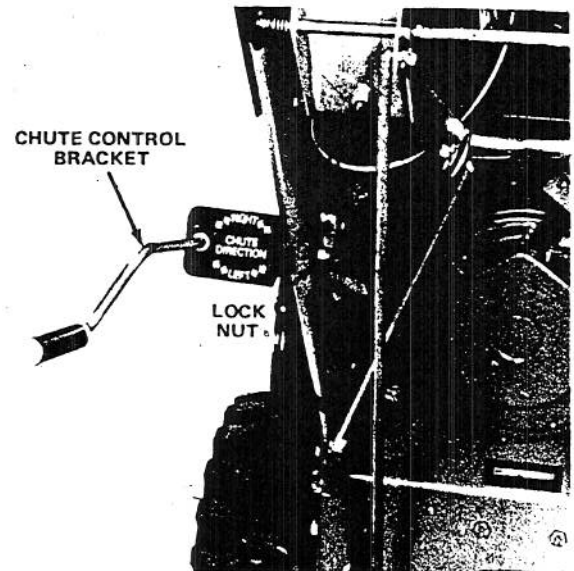
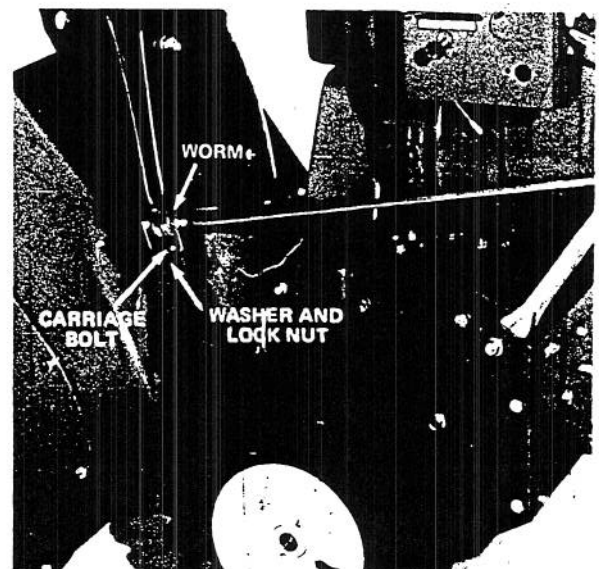

Figure 11
Figure 12
6. Install chute control bracket and rod against left side of handle with cap screw and lock nut; but do not tighten the lock nut (Fig. 11).
7. Apply No. 2 general purpose grease on worm gear. Next, mount worm bracket and gear on top of mounting flange with carriage bolt, pyramidal washer, and cone lock nut (Fig. 12). Do not tighten lock nut.
8. Push worm firmly against teeth in retaining ring; then tighten lock nut (Fig. 12). Also tighten lock nut holding chute control bracket against left handle (Fig. 11).